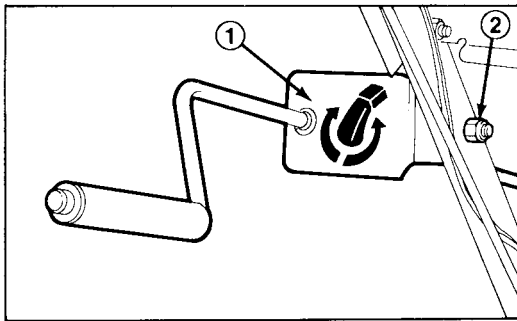
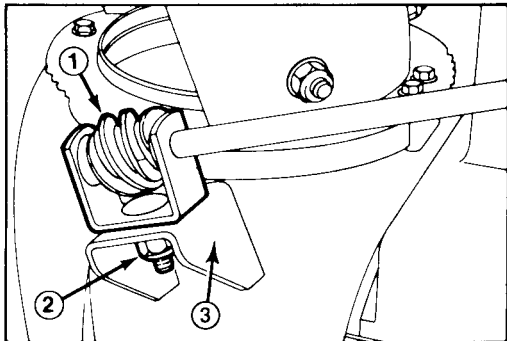

Figure 10
Figure 11
1. Assemble chute control bracket and rod to left side of handle with capscrew and locknut. Leave locknut loose until assembly is completely mounted (Fig. 10).
2. Apply No. 2 general purpose grease to worm gear. Mount worm gear and bracket to mounting flange and secure with pyramidal washer and locknut (Fig. 11).
3. Slide worm gear into teeth of chute retaining ring and tighten locknut (Fig. 11). Then, tighten locknut to secure chute control bracket against left handle (Fig. 10).